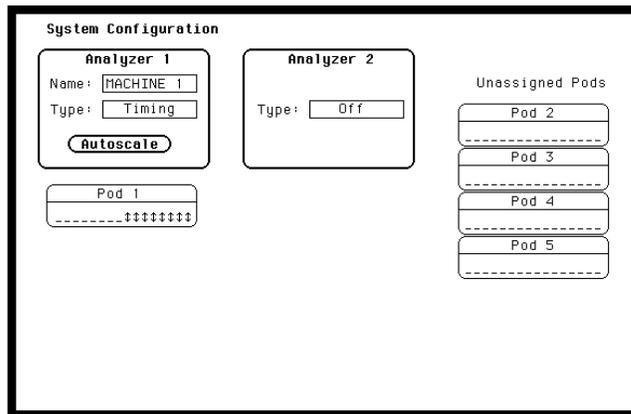

Figure 3-31. System Configuration for Glitch Test
3. Assign the pod under test to **Analyzer 1** in **System Configuration** as in figure 3-31. Refer to steps a and b if unfamiliar with menus.